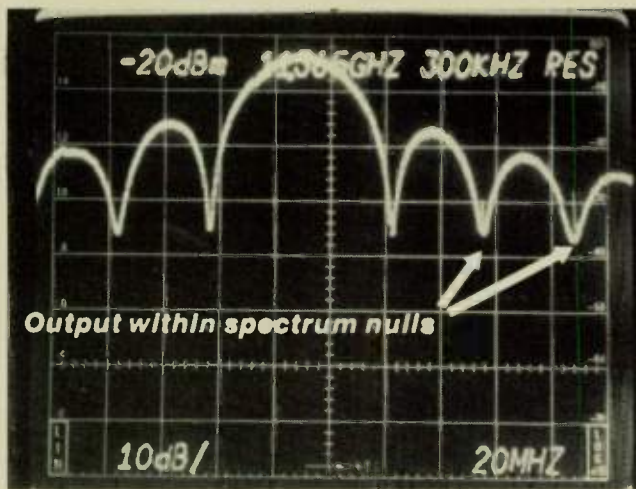

Fig. 11 Stray output within the spectrum nulls (measured before the output filter).
**Interference:** Stray interference can be captured by using digital storage display with maximum hold function. This technique holds random interference hits even when these hits occur for a short time. Figure 11 shows an interference problem by the